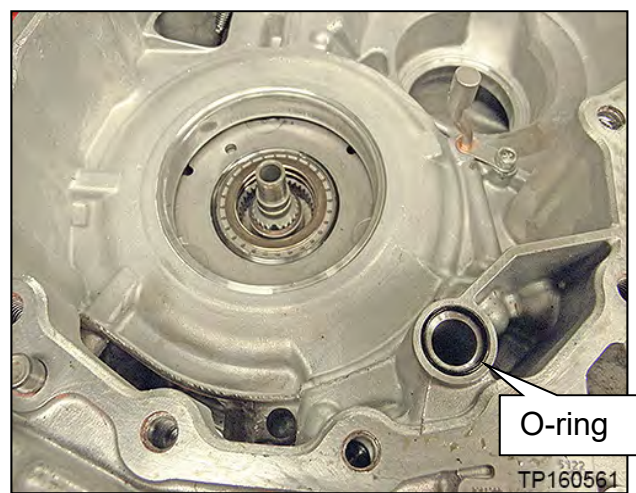

Figure 83
63. Replace the O-ring on the CVT case side with a new one from the PARTS KITS REFERENCE TABLE; discard original O-ring (Figure 83).